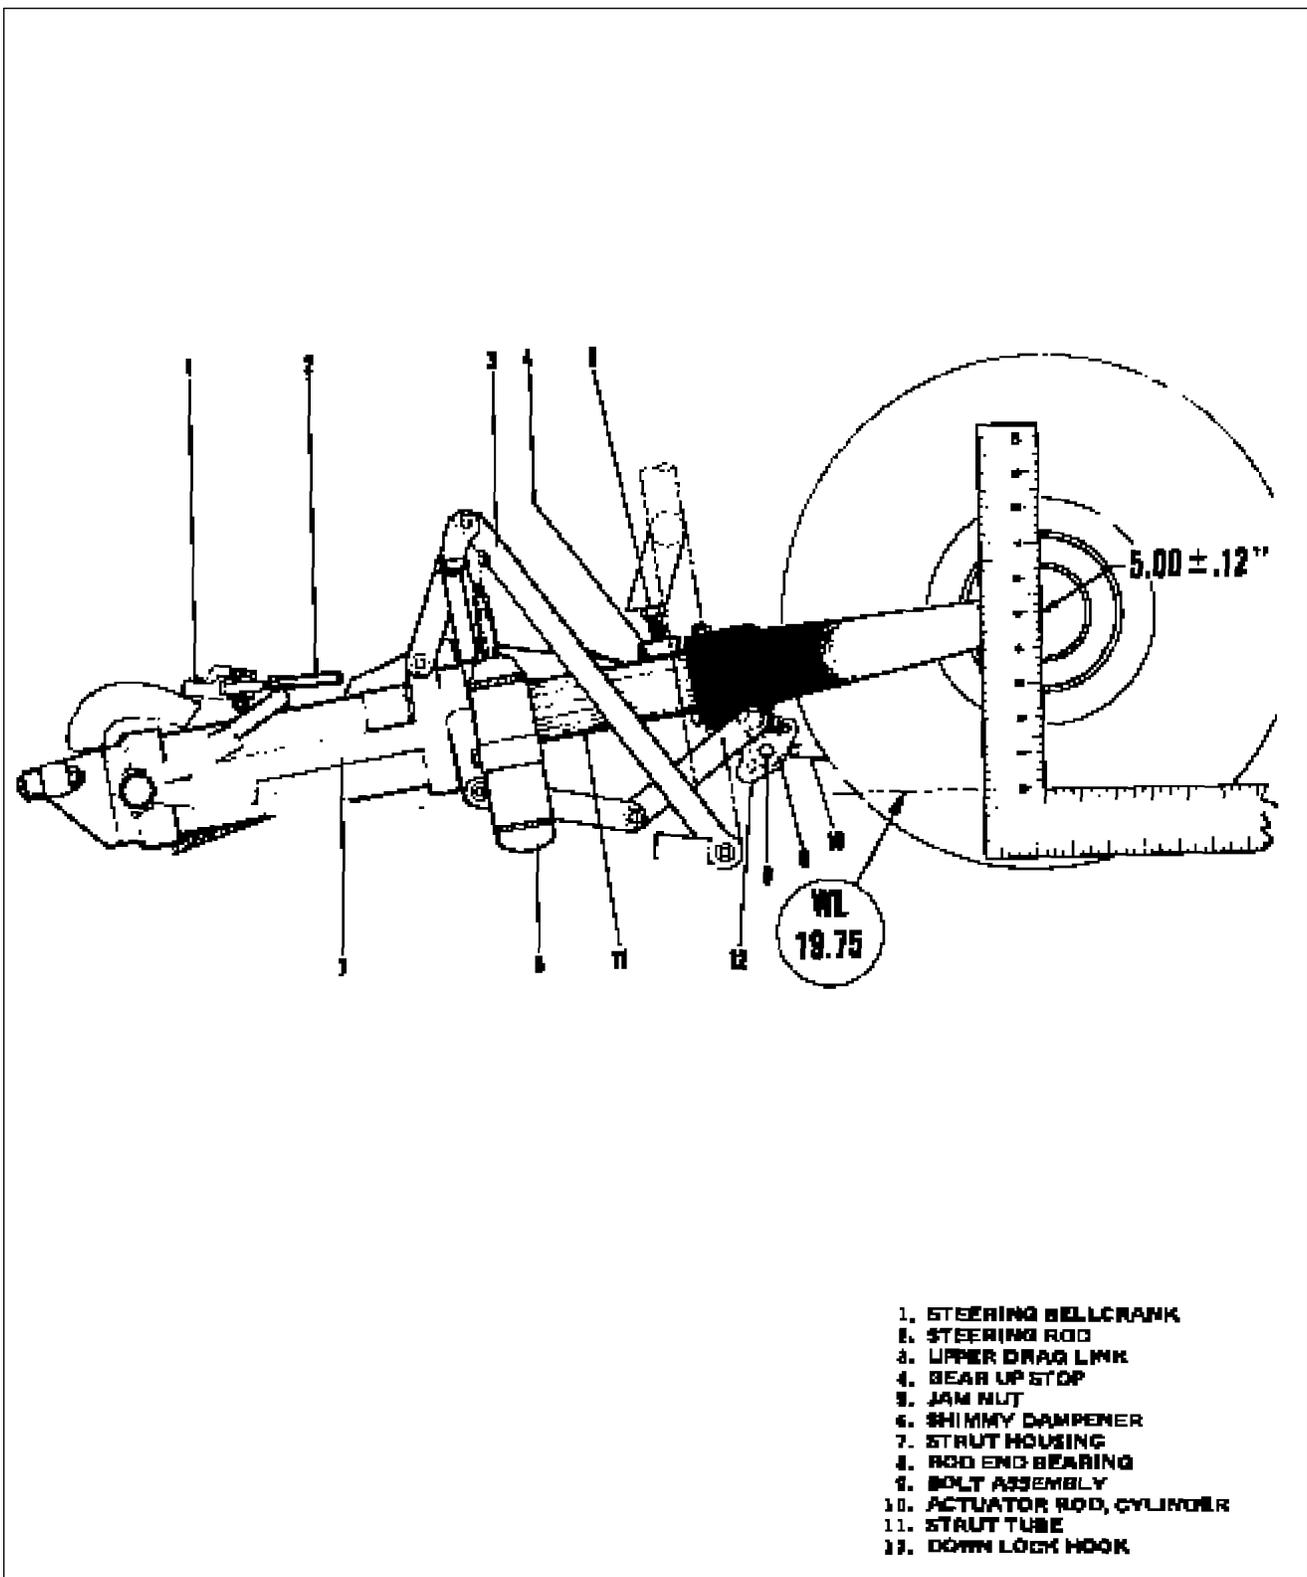

Figure 32-7. Nose Gear Adjustment (PA-28RT-201T)
**ADJUSTMENT OF NOSE LANDING GEAR. (PA-28RT-201T) (Refer to Figure 32-7.)**